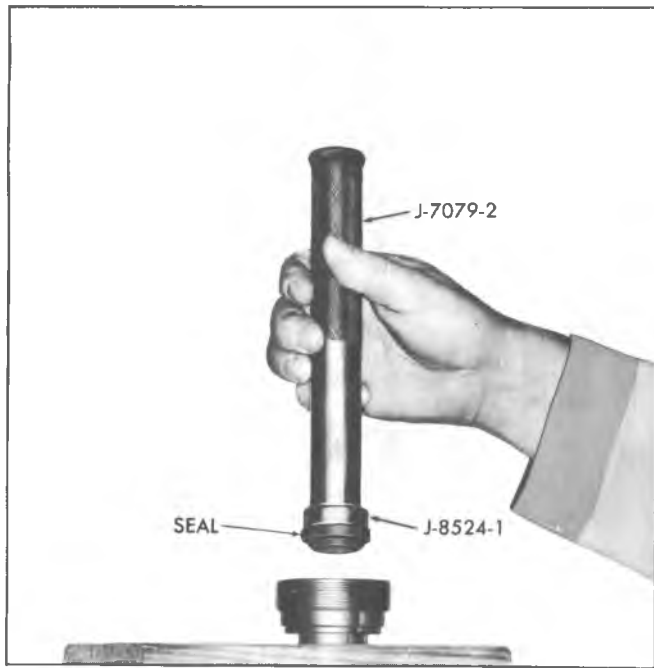

Fig. 7--Installing Adjuster Plug Seal
2. Place dust seal and a new stub shaft seal on Tool J-8524-1 (face of seal with part number against tool), Lubricate seal with Power Steering Fluid and drive or press seal into adjuster plug until seated (Fig. 7). When properly installed, the stub shaft seal under the dust seal and the inner dust seal lip is not bottomed on the stub shaft assembly.